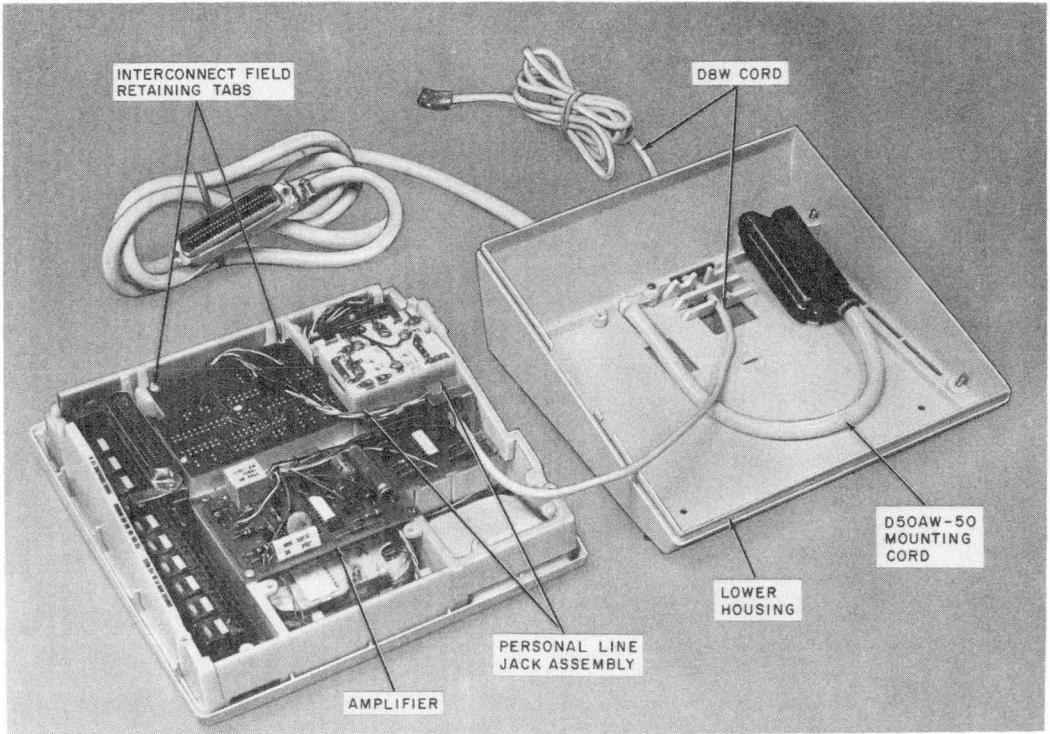

Fig. 56—Basic Satellite Desk Set Disassembled
**5.14** With the lower housing off (Fig. 56), the following components are accessible: